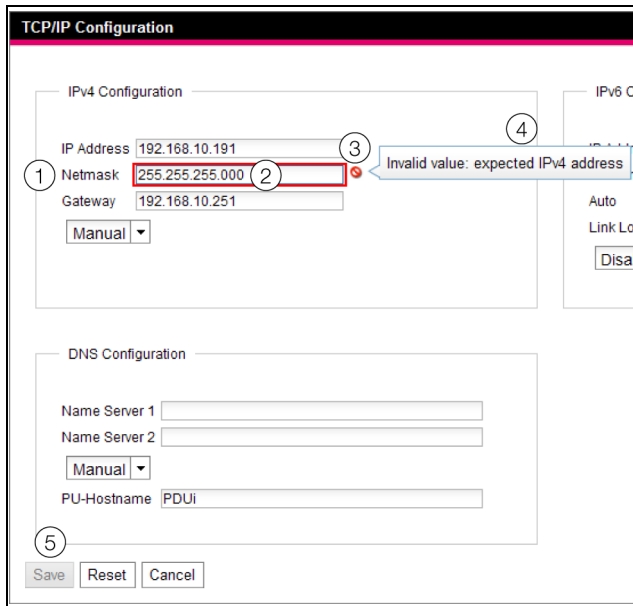

Fig. 29: Display of an incorrect entry
- A red "prohibited symbol" (fig. 29, item 3) appears after the incorrect entry (fig. 29, item 2) in the **Netmask** field (fig. 29, item 1).
- By hovering over the prohibited symbol with the mouse, additional information about the error will appear (fig. 29, item 4).
- The **Save** button is deactivated (fig. 29, item 5), so that the current values cannot be saved.